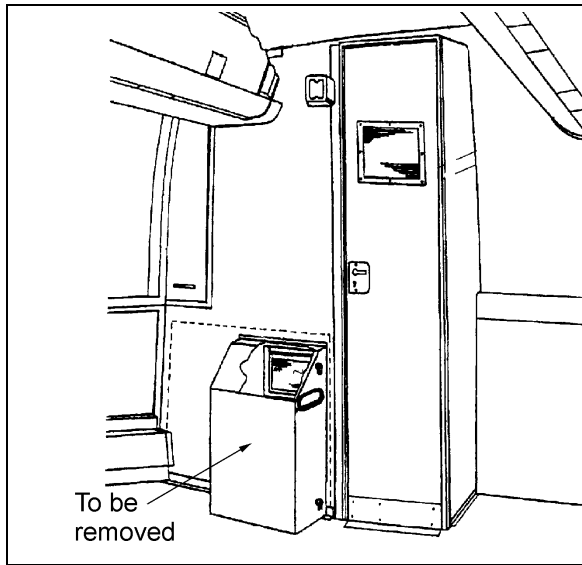

FIGURE 1: BIN REMOVAL
1. Remove the garbage bin (figure 1). Locate the opening on the lavatory wall.